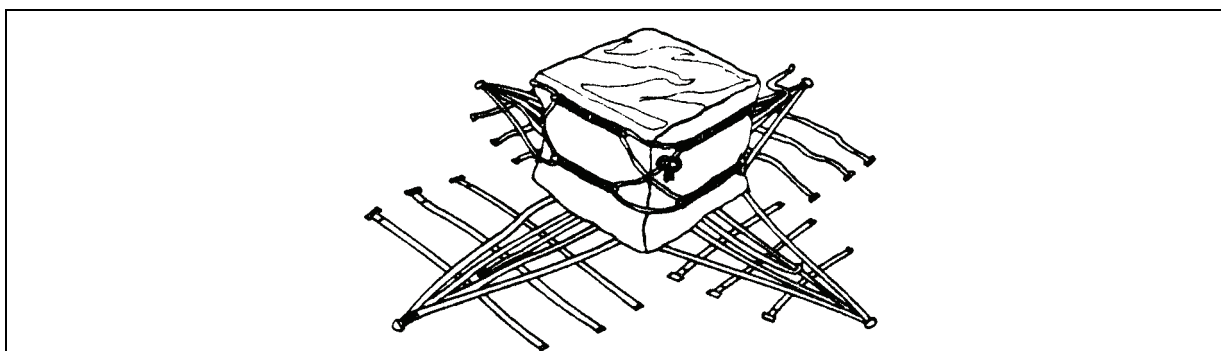

Figure 8-3. Cover Secured with Lacing Cord
- **Closing the Cover.** Fold the panels of the canvas/nylon cover over the top of the load. Fold any excess cover material under the top flap. Using lacing cord or Type III nylon cord, secure the cover at each corner by running the cord through the lacing loops in a figure-eight design (Figure 8-3). Tie the cord ends with a bow knot and secure. The purpose of the cord is to tighten the cover around the load so that small items cannot fall out.